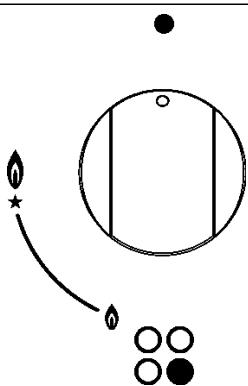

FIG. 1
Push and turn the knob corresponding to the required burner in an anticlockwise direction until it reaches the full on position (large flame fig. 1), then place a lighted match near the burner.
Push and turn the knob corresponding to the required burner in an anticlockwise direction until it reaches the full on position (large flame fig. 1), then depress and release the ignition button.
Push and turn the knob corresponding to the required burner in an anticlockwise direction until it reaches the full on position (large flame fig. 1), then depress the knob.
The knobs of burners equipped with flame failure device must be turned in an anticlockwise direction until they reach the full on position (large flame fig. 1) and come to a stop. Now depress the knob in question and repeat the previously indicated operations.
- When the pan comes to the boil, set the knob to the reduced rate position (small flame fig. 1).
- **burners with flame failure device may only be ignited when the relative knob has been set to the Full on position (large flame fig. 1).**